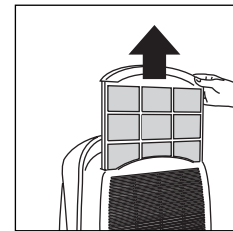

fig. 4
- Remove the air filter, by pulling it as shown in fig. 4.